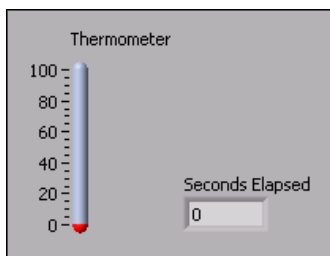

Figure 3.9
1. Open a blank VI and build the front panel shown in Figure 3.9.